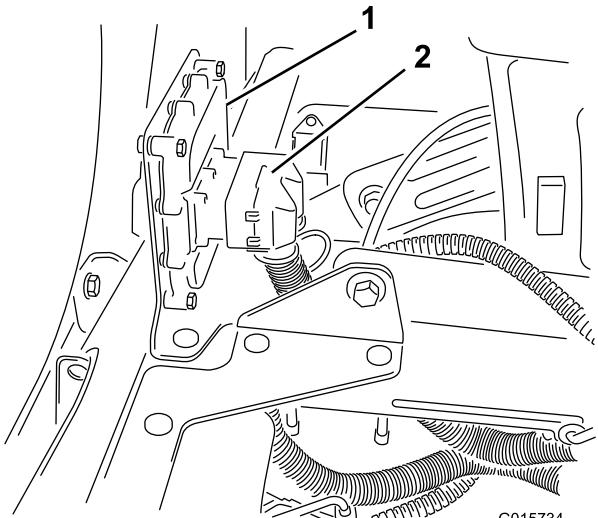

Figure 18
- For model 5800, connect the terminal on the wiring harness into the electronic controller and secure it with an Allen wrench (Figure 18).